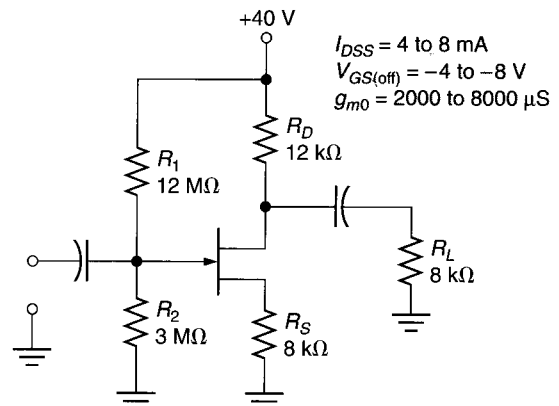

FIGURE 12.63
26. Determine the ranges of  $I_D$  and  $V_{DS}$  for the circuit shown in Figure 12.63.
34. Determine the range of  $A_v$  values for the circuit shown in Figure 12.63.